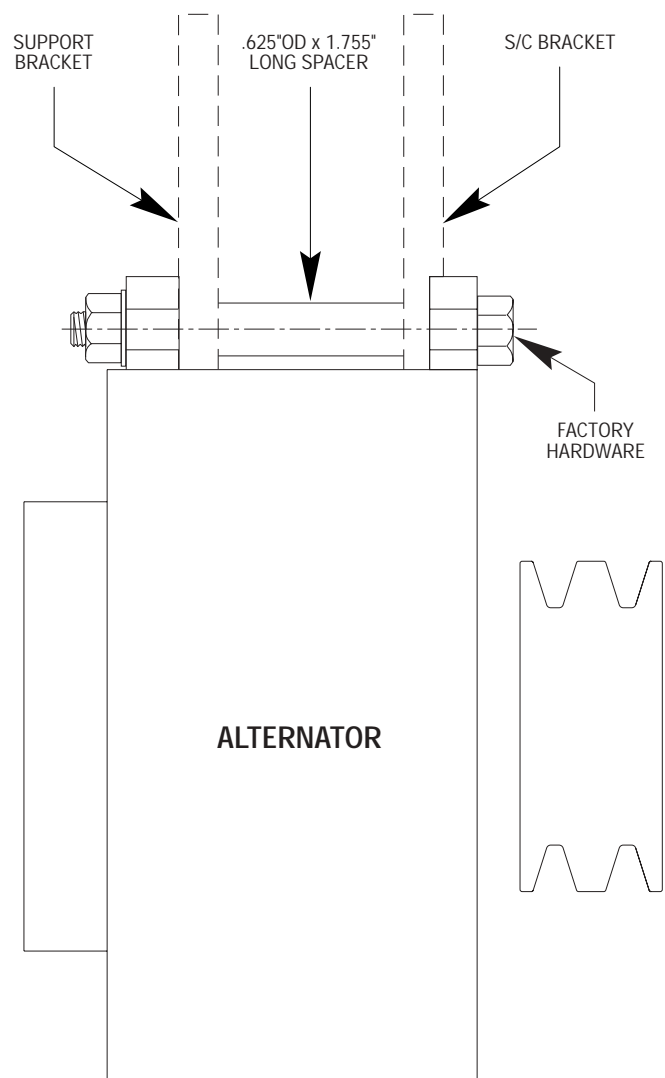

Fig. 5-1-g
- L.** Tighten all hardware installed to this point, making sure that all spacers and brackets are flat against their mounting surfaces. (See Fig. 5.1-e.)